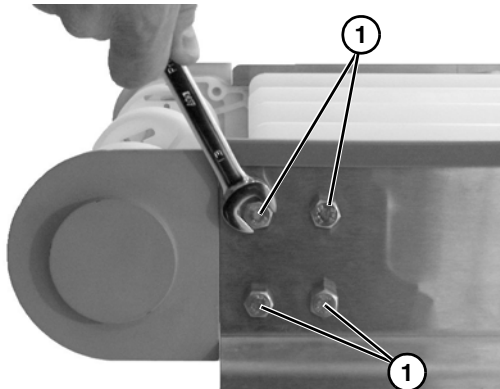

Figure 42
2. Remove four head plate bolts (Figure 42, item 1). Repeat on opposite side.